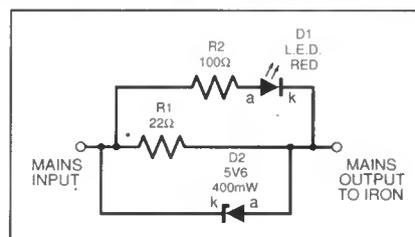

Fig.2. Circuit diagram for the Soldering Iron Ready Indicator. (See text for component ratings.)
**T**HE SIMPLE circuit of Fig. 2 is suitable for indicating when your soldering iron has reached its operating temperature. It may be used in conjunction with any *thermostatic* iron such as the Weller TCP series, and it can even be used with thermostatic irons that use a low voltage power supply, and also electronically controlled irons.